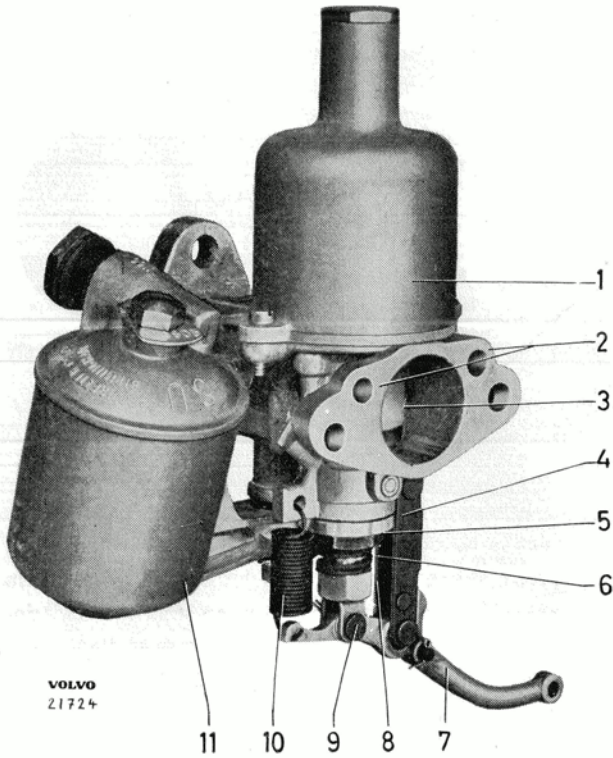

Fig. 6. Rear carburetor from float chamber side.
The jet is pressed upwards by the spring (10, Fig. 6) for the lever (7) so that the lower part of the jet is supported against the adjuster nut (8), which is locked in position by means of another spring (6). This nut is used to set the amount of fuel passing through since the fuel needle is tapered.